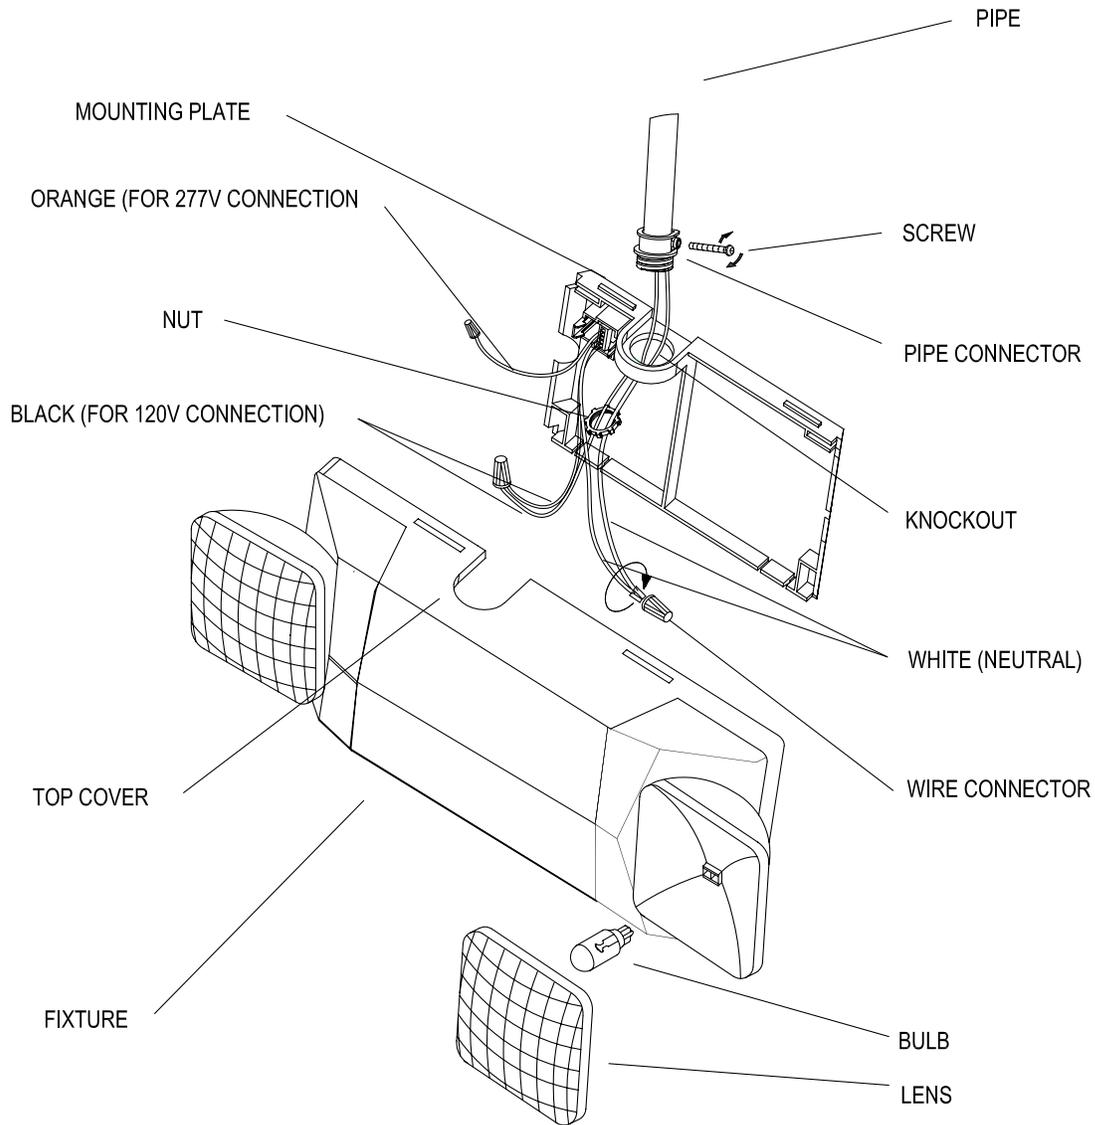

Fig. 3
- Remove mounting plate from fixture by prying with screwdriver gently.(See Fig.3)